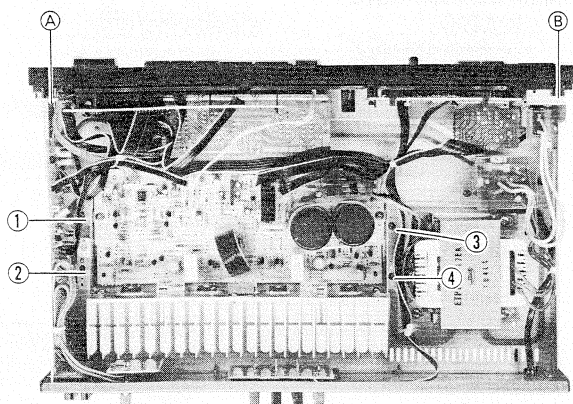

Fig. 2
2. Remove screws ① ~ ④ on the bracket of P.C. board. (Fig. 2)